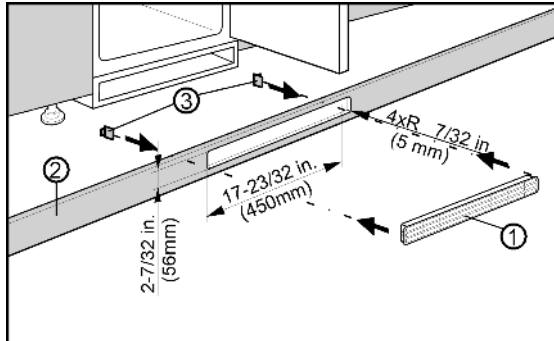

Fig. 7
Ventilation from underneath through the floor of the kitchen cabinet can be set up with the supplied ventilation grid *Fig. 7 (3)* or an air vent with at least a 31 in2 (200 cm2) cross section area. If you use the supplied ventilation grid *Fig. 7 (1)* please proceed as follows:
- ▶ Insert the ventilation grid *Fig. 7 (1)* into the cut out in the cabinet floor *Fig. 7 (2)*.
- ▶ Slide the snap connectors *Fig. 7 (3)* into the grid from behind until the hooks touch the cabinet floor.